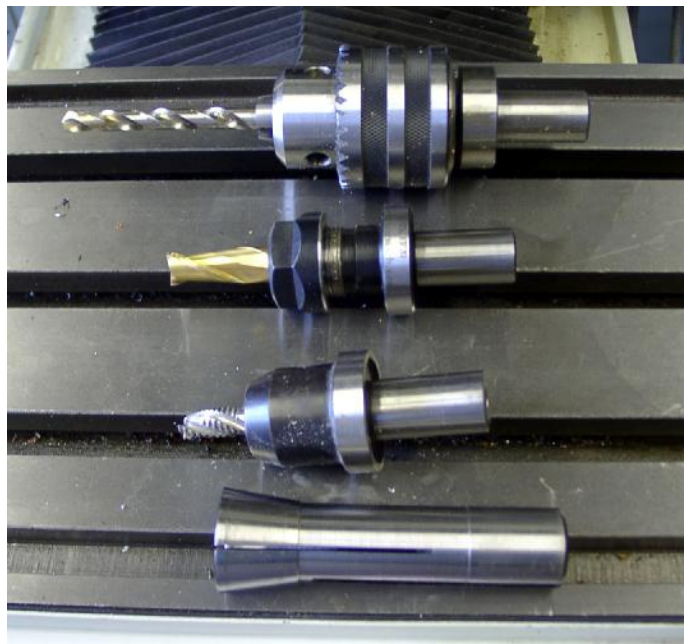

Figure 5.2 – Holders in the TTS range with collet
- Tormach Tooling System (TTS) – this allows you to have all the tools that you commonly use mounted in low cost tool holders and to change them very quickly. The working length of each tool is accurately maintained each time it is loaded into the spindle so it can be used for cutting with no further setup. Tool lengths can be setup and checked in a stores or inspection area without using the PCNC (figures 5.2 & 5.3).